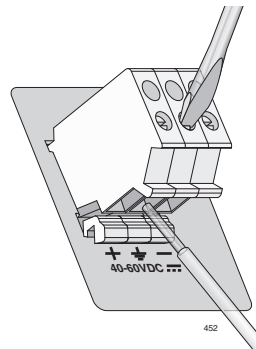

Figure 27. Connecting the Stripped Wire
4. Connect the **frame ground** wire to the terminal marked with the ground symbol by inserting the wire into the terminal and tightening the connection with a flathead screwdriver, as shown in Figure 27.